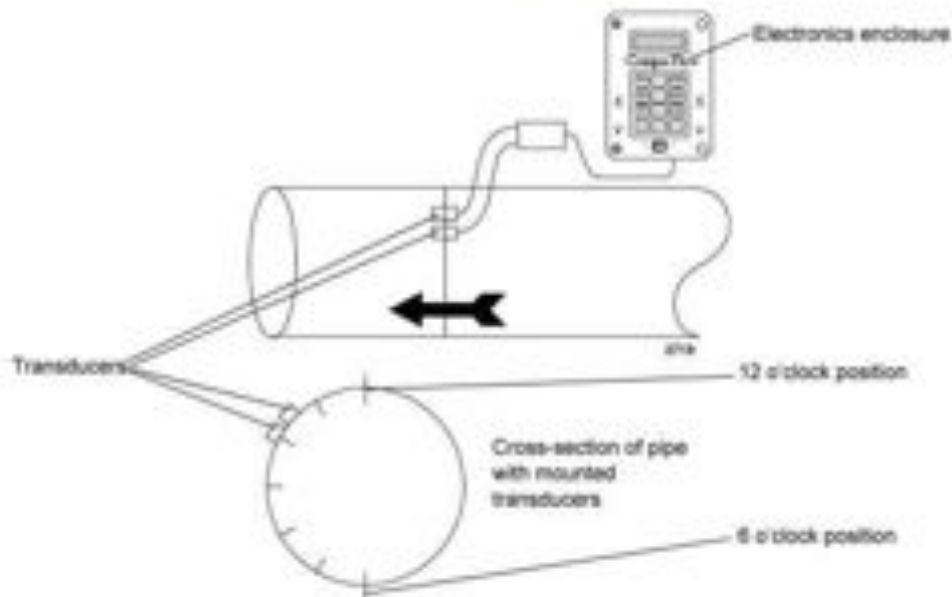

Figure 2-4. Clamp-on transducer placement
3. Place the transducers side by side between 7 o'clock and 10 o'clock on the pipe as shown in Figure 2-4. Place the transducers flush to the pipe, facing the same direction. See Figure 2-5 for an example.
Note: Be careful with transducer placement. Air bubbles near the top of the pipe or sediment on the bottom of the pipe can hinder successful flow readings. Place the transducers as shown in Figure 2-4.